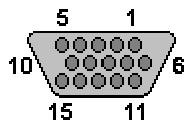

Figure 3-29: VGA Connector
- CN Pinouts:** See Figure 3-29 and Table 3-35